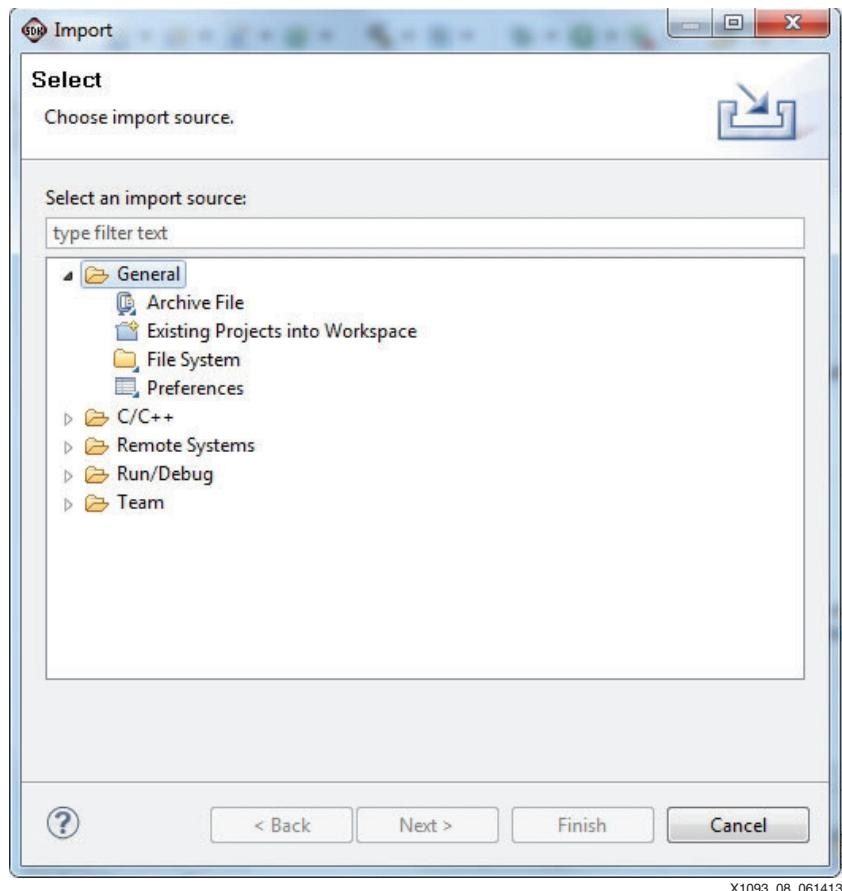

Figure 8: CPU0 General File System
8. Expand **General** and select **File System**, as shown in Figure 8.